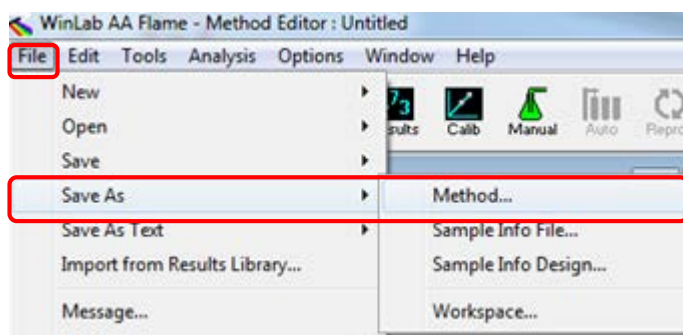

Fig. 19
3.2.6 **File > save as > method** (fig.19). Name your method and click on OK.